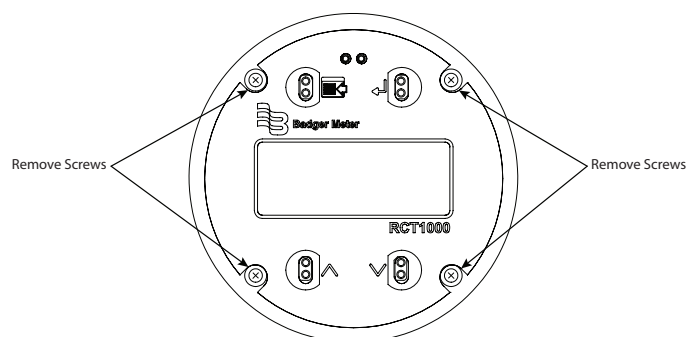

Figure 41: Phillips head screws
3. Use a Phillips head screwdriver to remove the 4 screws holding the display board to the standoffs. See *Figure 41*.